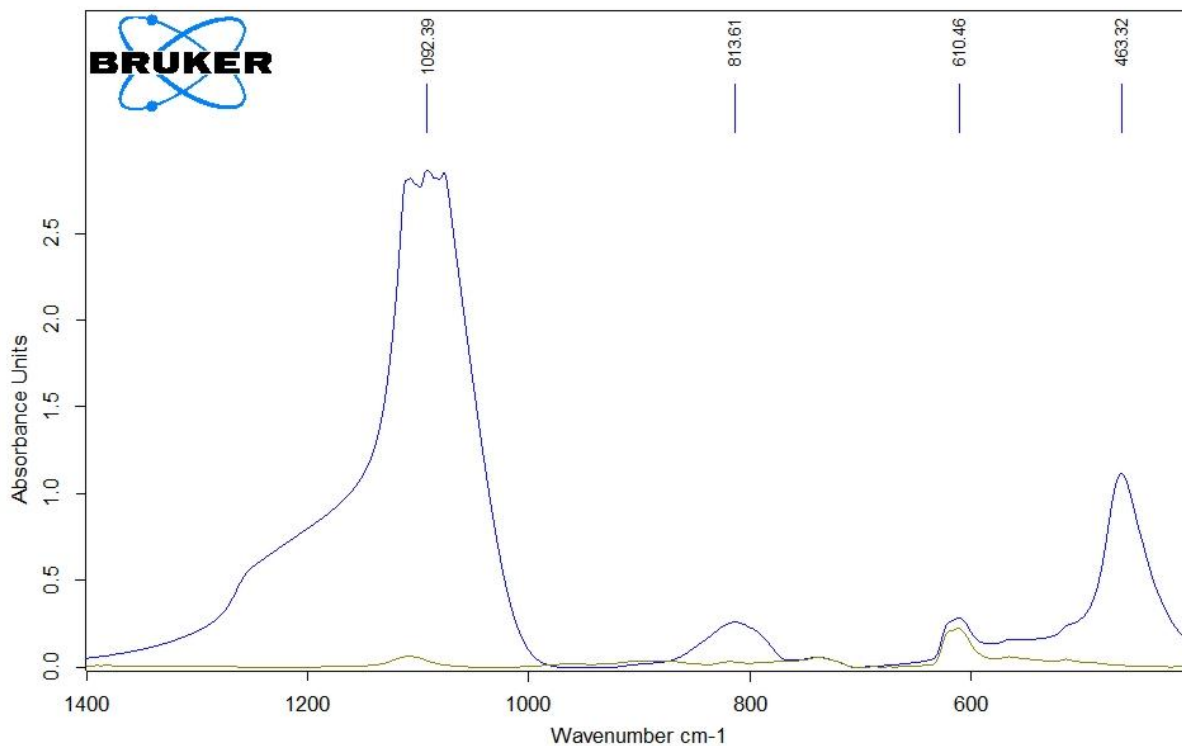

Figure 15: 1000 nm-thick thermal SiOx film grown in Tystar 5.
9.4.4 Also note that each FTIR spectrum (with the exception of figure 15 for the 1000 nm thermal oxide) has the same axes scaling so that the reader may readily compare them